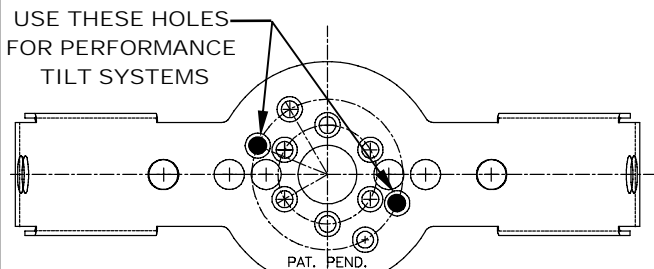

FIGURE 1c
**Step 2.** Using the template provided, punch mark the rubber boot through to its metal mounting flange. Carefully remove the boot and drill two 3/16" diameter holes in the metal mounting flange of the tilt mechanism (see Figure 1c).